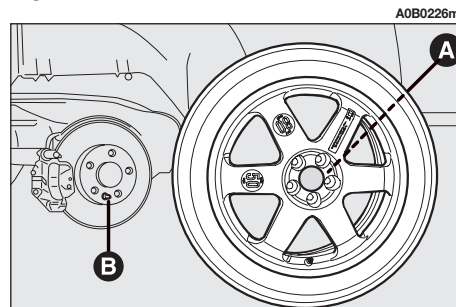

fig. 7
- Install the spare wheel by matching one of the holes (**A**-fig. 7) with the corresponding pin (**B**-fig. 7).
— Fit a normal wheel bearing in mind that the pin (**B-fig.7**) must match one of the holes (**A-fig.7**).
— Tighten the bolts following the order previously described for the compact spare wheel **fig. 7**.
— Lower the car and remove the jack; then tighten the bolts as described previously for the spare wheel (**fig. 7**).